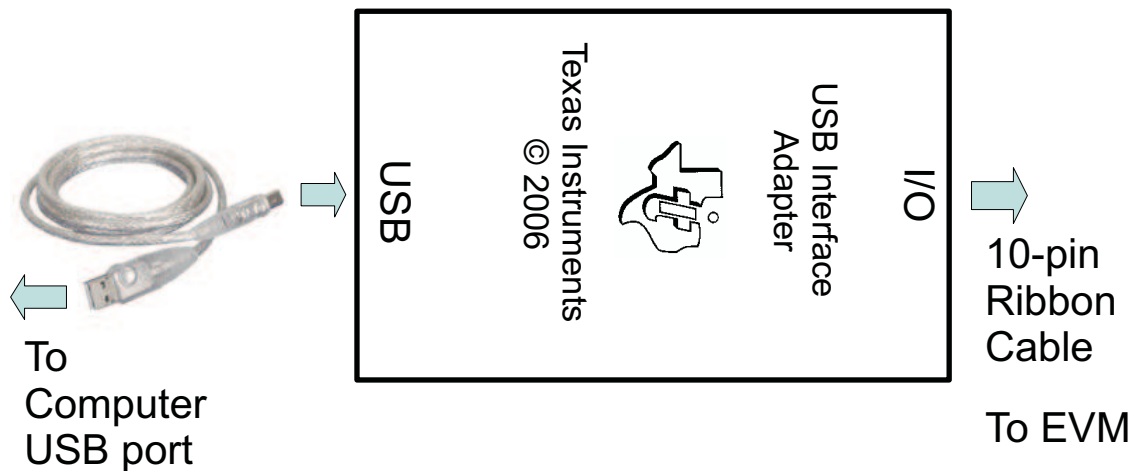

Figure 3. Connections of HPA172 Kit
Because the bq24187 has a watchdog timer, it is recommended that you set the software's **Reset Watchdog Timer** to reset every 5 seconds. Otherwise, after 30 seconds of operation, the IC enters Default mode. Note that the 27-minute safety timer is not reset by this function and eventually times out if charging does not complete, unless the **Safety Timer Time Limit** is expanded or disabled via the GUI. One way to reset the safety timer is to allow the 30-second watchdog timer to expire. See Figure 3 in the data sheet for more information about the timers.
8. Connect the HPA172 kit to J12 by the 10-pin ribbon cable. Connect the USB port of the HPA172 kit to the USB port of the computer. The connections are shown in Figure 3.